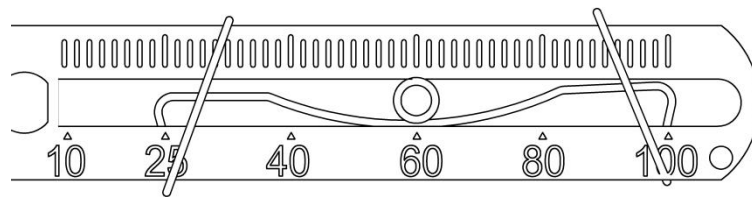

Figure 20. Feedback lever B and driving pin connection
- For feedback lever A, hold the linear stroke mounting bracket⑦ against the actuator. Plug the head of feedback lever⑤ into the U-shaped rod①. For feedback lever B, insert the driving pin⑪ into the fixed spring in the slot of the feedback lever B, as shown in Figure 20. Make the valve main stem and feedback lever are at right angle. If it cannot be at right angle, install according to the actual situation.